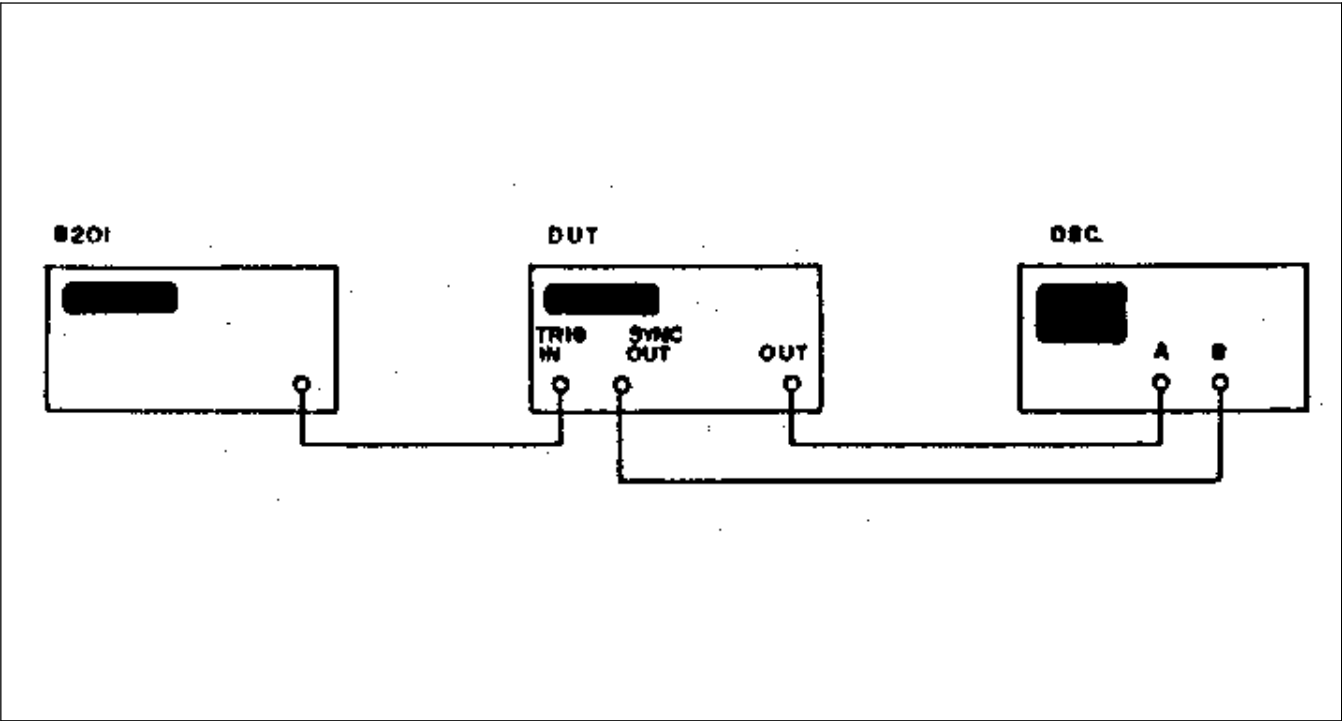

Figure 7-2. First Period Adjustment
2. Connect the test instruments as described in Figure 7-2.